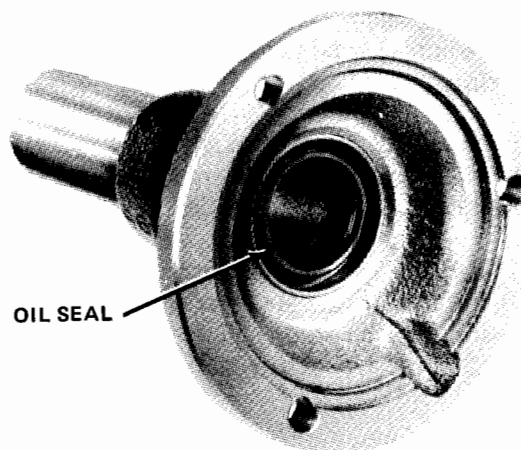

Fig. 6-33 Front Bearing Cap Oil Seal
(24) Install rear bearing adapter, spacer, transfer case drive gear, flat washer, and locknut. Tighten locknut to 150 foot-pounds torque.
(25) Inspect front bearing cap oil seal. Replace seal if cut, worn, loose, or distorted (fig. 6-33).